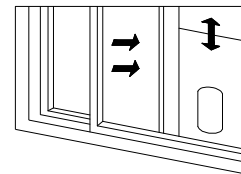

Figure3
- 1) Half open the window, and mount the window sealing plate assembly to the window (as shown in Figure 2 and Figure 3); the assembly can be placed in horizontal and vertical direction.